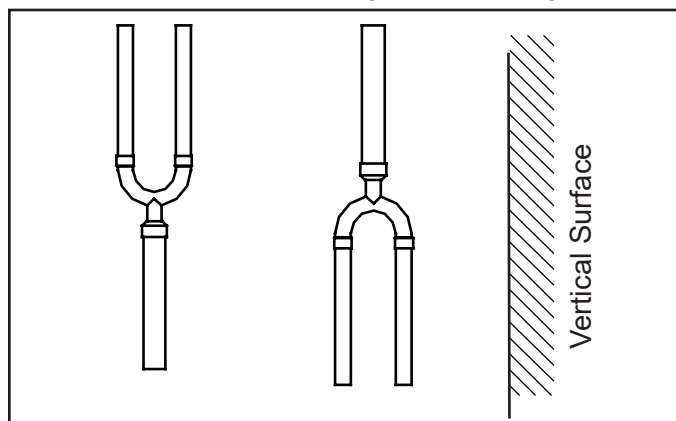

Figure 17. Vertical Installation
- The piping can be cut to suit the installation needs. See figure 17.